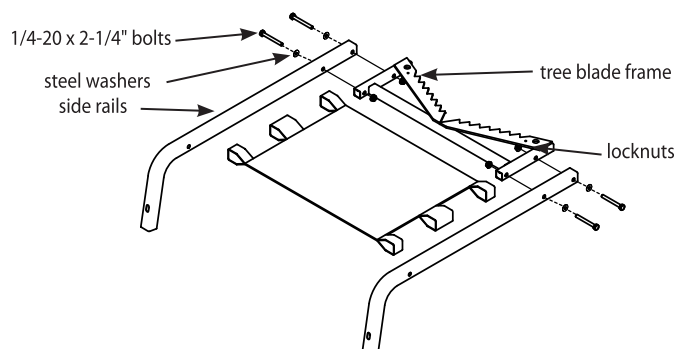

Figure 2
4. Attach the tree blade frame (SL67) to the side rails (SL69) using (4) provided 1/4-20 x 2-1/4" bolts, locknuts and steel washers. **SEE FIGURE 2. You must now tighten all nut & bolt assemblies. Be sure not to over tighten or crush tubing when tightening!**